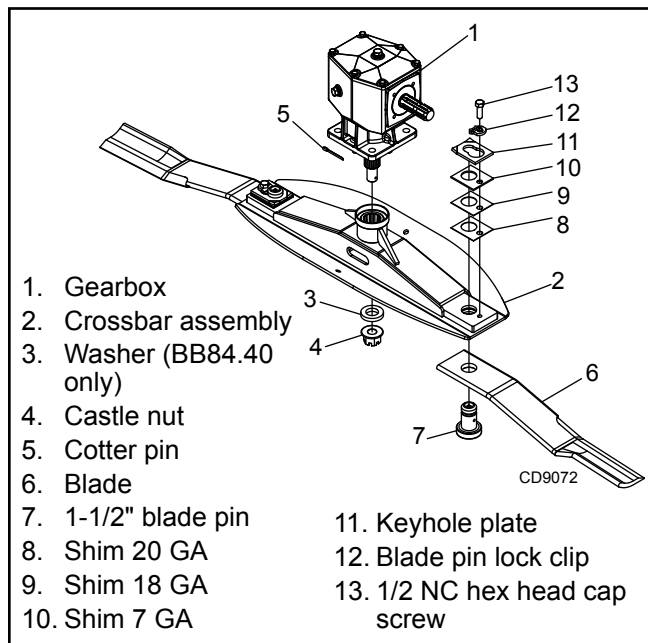

Figure 19. Blade Removal
2. To make crossbar removal easier, remove blades as shown in Figure 19.